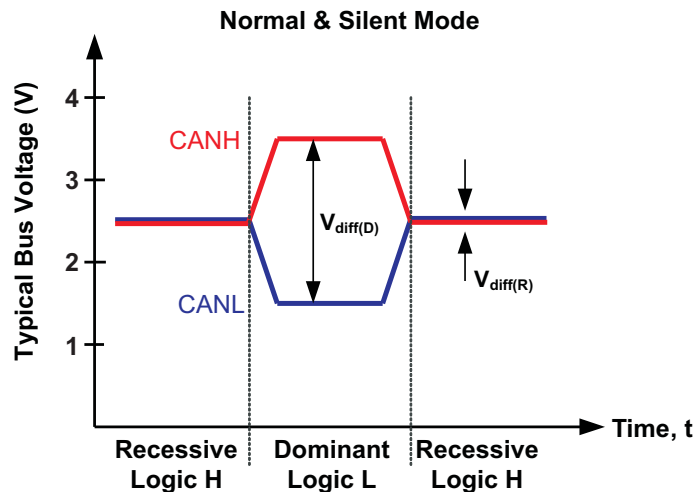
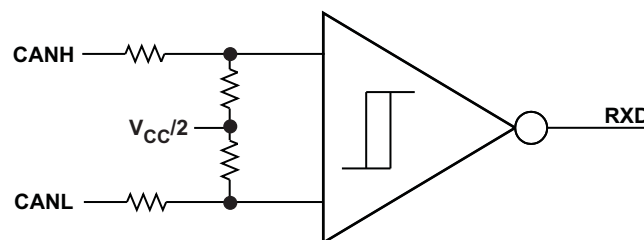

Figure 3. Bus States (Physical Bit Representation)
Figure 4. Simplified Recessive Common Mode Bias and Receiver
The CAN bus has two states during powered operation of the device; *dominant* and *recessive*. A dominant bus state is when the bus is driven differentially, corresponding to a logic low on the TXD and RXD pin. A recessive bus state is when the bus is biased to $V_{CC} / 2$ via the high-resistance internal input resistors R_{IN} of the receiver, corresponding to a logic high on the TXD and RXD pins. See Figure 3 and Figure 4.
- (1) H = high level, L = low level, X = irrelevant, Z = common mode (recessive) bias to $V_{CC} / 2$. See Figure 3 and Figure 4 for bus state and common mode bias information.
- (2) Devices have an internal pull down to GND on S pin. If S pin is open the pin will be pulled low and the device will be in normal mode.
- (3) Devices have an internal pull up to V_{CC} on TXD pin. If the TXD pin is open the pin will be pulled high and the transmitter will remain in recessive (non-driven) state.